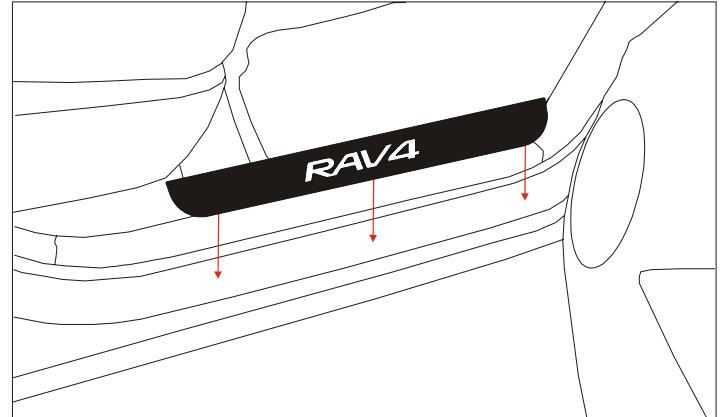

Fig. 2-3
-  (1) Align part uniformly to bottom side edge of factory sill. Pressing from the center to the edges to allow all of the air to escape. (Air trapment will cause bumps under the surface of the applique) (Fig. 2-3)